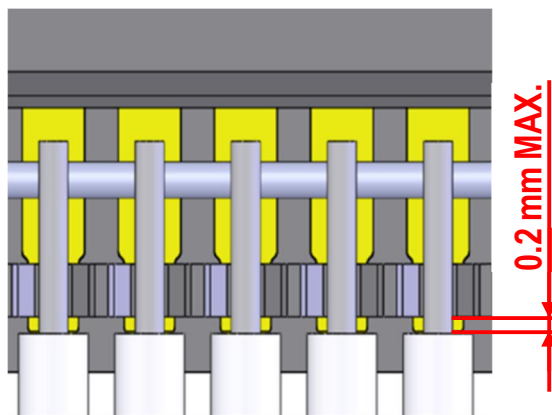

Fig.3 Setting Discrete Wire
④ Set the cable or wire.
* To prevent potential contact between the core wire and the shell during discrete wire setting, ensure that a maximum of 0.2 mm is not exceeded, as illustrated in Figure 3.